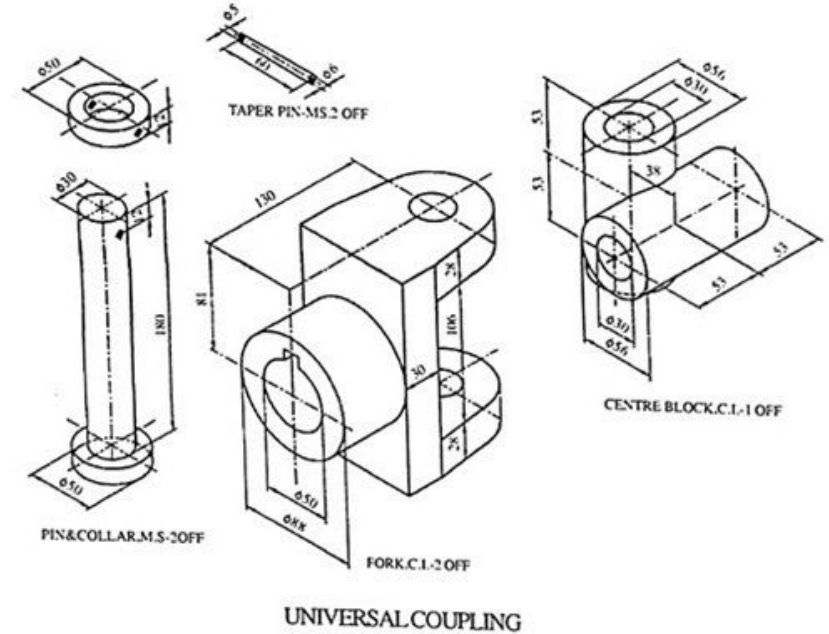

Figure 4
7. Draw the following views of the object given in figure 4. 40